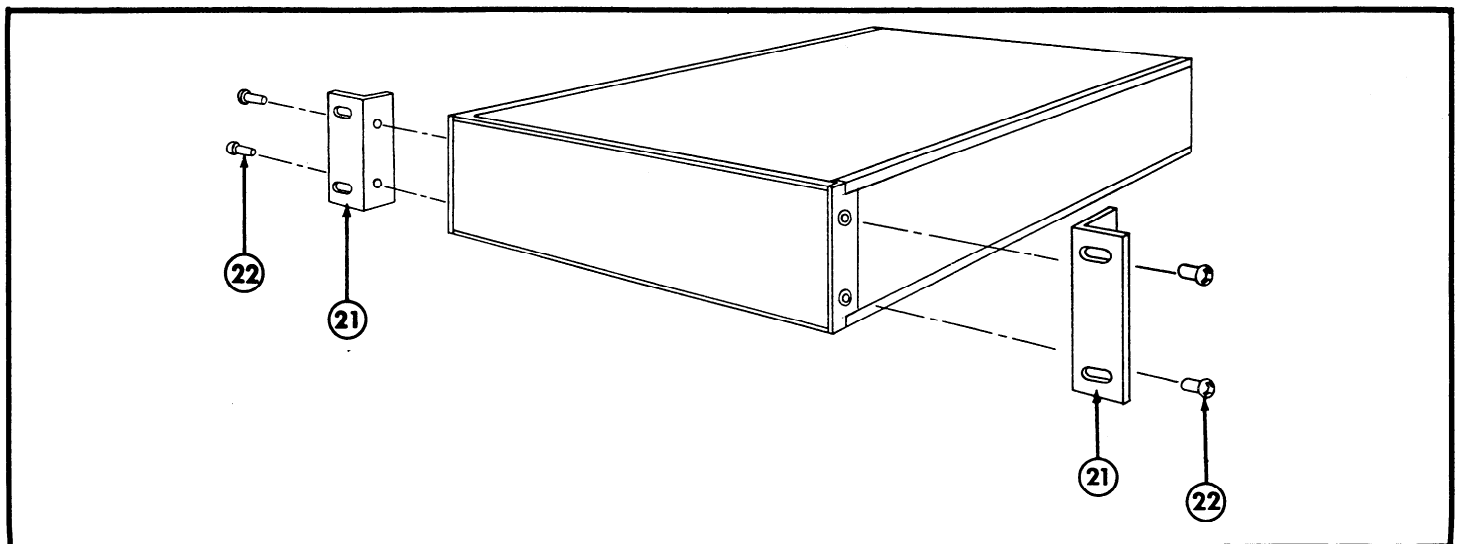

FIGURE 16. Rack Mounting.
2-7. RACK MOUNTING. The Model 840 can be rack mounted in a standard 19" width rack as shown in Figure 16. The rack mounting hardware is supplied with the instrument. Assembly is accomplished as follows:
- b. Attach an "angle bracket" (Item 21) on both corners using Phillips screws (Item 22) as shown in Figure 16.